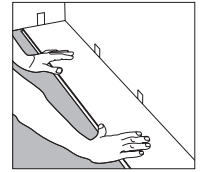

Figure 1
1. Starting from the left with the tongue-side facing the wall, carefully place the first board in place, using spacers to leave a ¼" expansion gap between wall and edges of the plank or tile. (Figure 1)